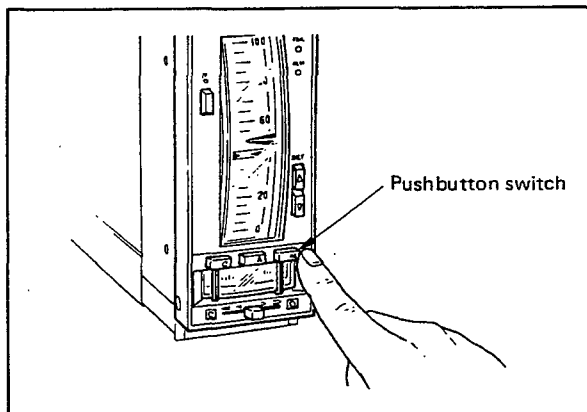

Figure 5-3-1. Selecting the Operation Mode.
- (1) Manual operation by manual control lever.
- (a) Of the **C** **A** **M** operation mode transfer switches, select **M**. (The lamp inside the pushbutton lights.) (Figure 5-3-1).
The control mode of the controller can be changed freely by depressing the **C A M** pushbutton switches. (Figure 5-3-1). (Note, however, that direct transfer from **M** to **C** modes is not allowed.) Transfer between modes is bumpless, and no balancing operation is needed.